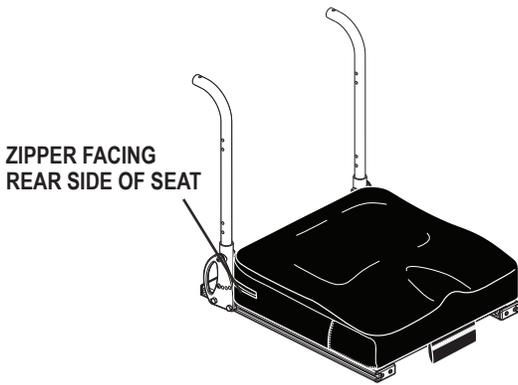

Figure 1. Cushion Placement
2. Place the cushion on the seat so that the "Back Button" label is located on the back of the seat, label side facing down. The zipper on the cushion will face the rear side of the seat. See figure 1.